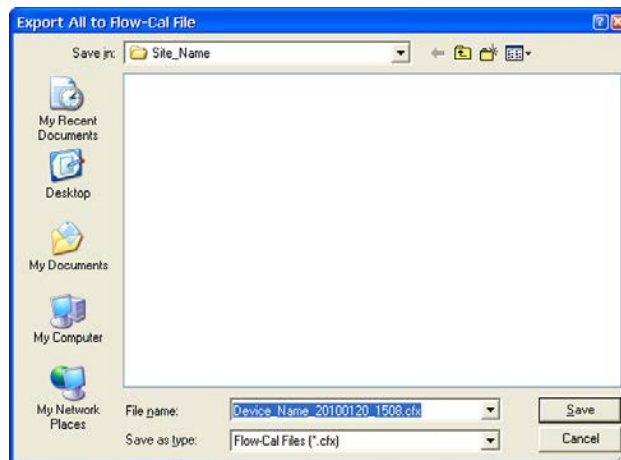

Figure 14.34
2. An Export All to Flow-Cal File or Export All to PGAS Files window will appear (Figure 14.34). To change the file path and/or file name from the defaults listed below, browse to the desired file path and/or type the desired entry in the field provided. See Log Directory and Filenames, page A-16 for more information.